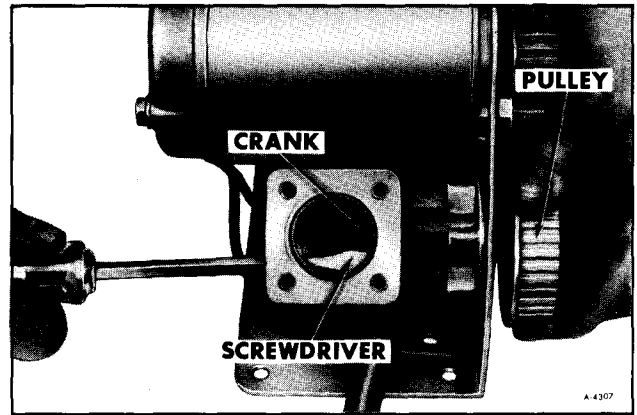

Figure 48—Removing Pulley Shaft From Crank
6. Use a screwdriver to wedge the crank inside the crankcase and unscrew the shaft and pulley assembly (figure 48).